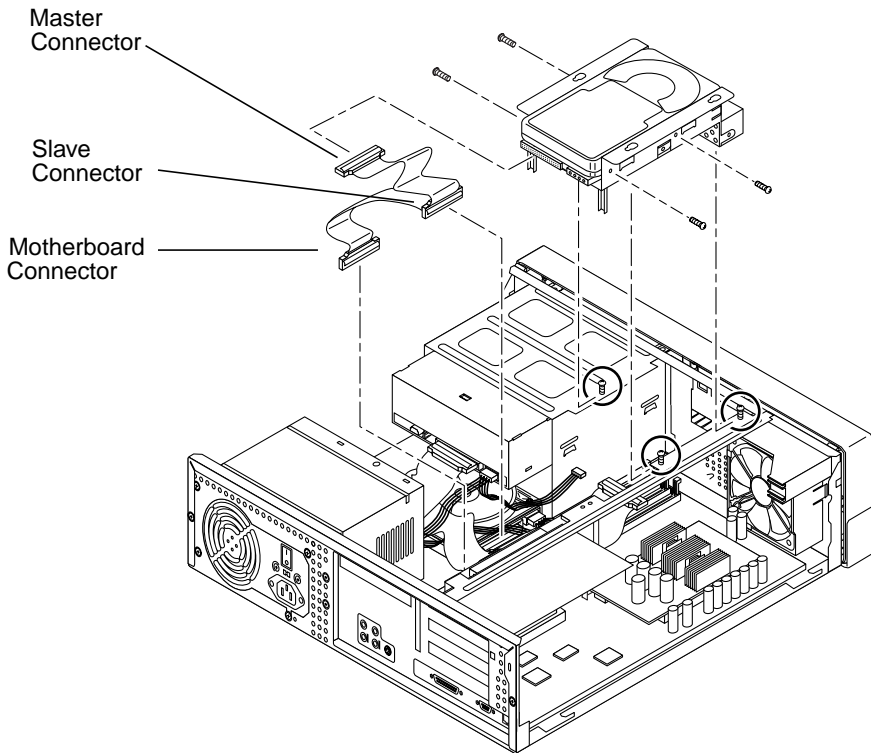

FIGURE 11 Installing an Optional Hard Drive in the Front Position (Ultra 5)
The optional hard drive replaces the diskette drive and its bracket (FIGURE 11).
- b. Position the hard drive into the hard drive bracket as shown in FIGURE 11.